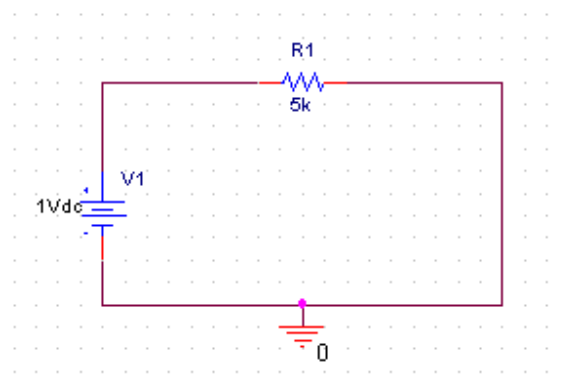

Figure 6 – Complete first circuit after wiring
- e. Wire the parts together as shown in Figure 6. Use “w” for shortcut. Now the circuit is ready for simulation.